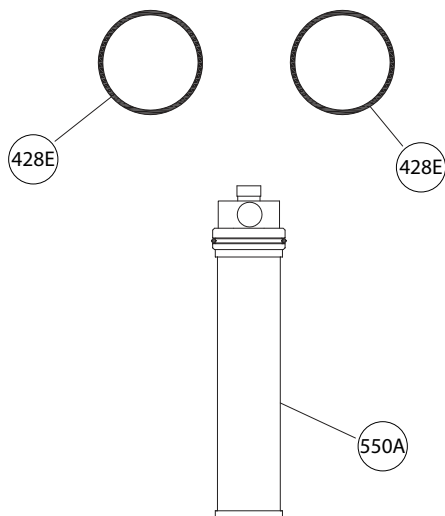

Figure 32: Filter kit
3. Repair Filter kit RK08174A consists of a new filter (550A) and two o-rings (428E). Two kits should be purchased at each filter change one for the drive end and one for the non-drive end, see Figure 32: Filter kit on page 55.